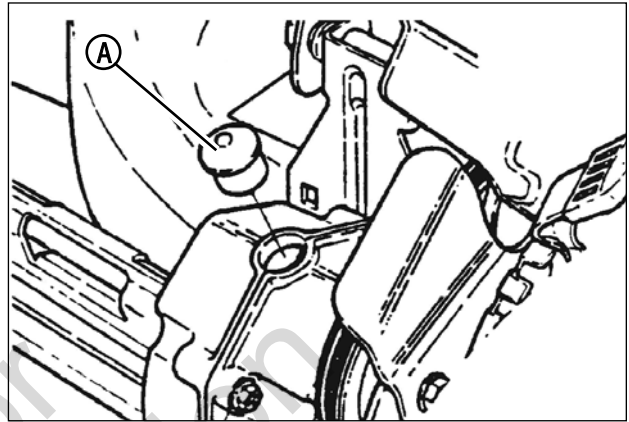

Figure 16: Removing the transmission fill plug
1. Remove the transmission fill plug (A, Figure 16). Roll the machine forward or backward while looking down into the plug hole.